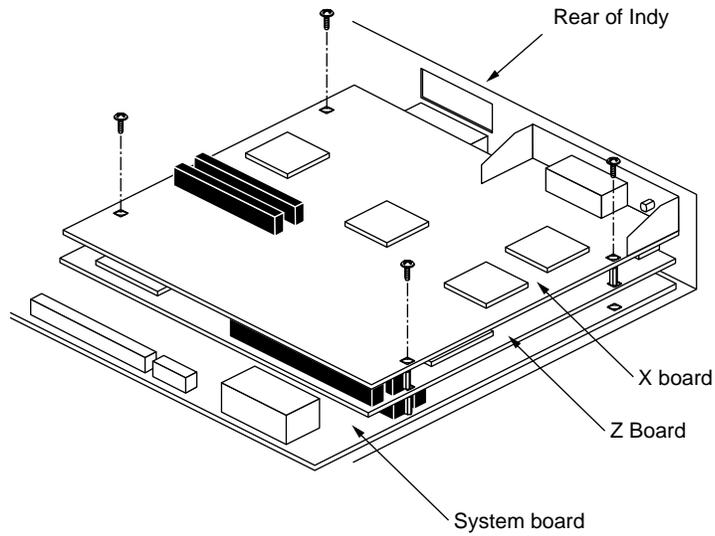

Figure 1-12 Removing the Screws From the X Board
1. Use a Phillips screwdriver to remove the screws securing the X board to the Z board, as shown in Figure 1-12.